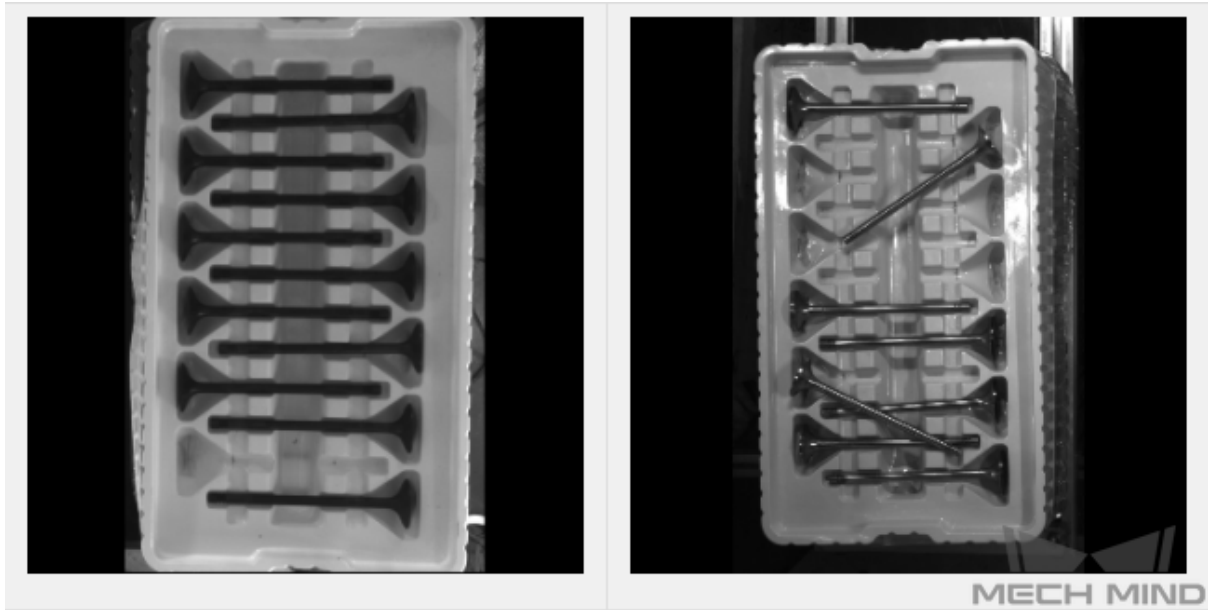

Figure 4. Engine valve in a slot and not in a slot
- If in a slot, an engine valve may be in different positions, but can only be in one of two orientations (as shown in *Figure 4*). Therefore, about 10 images need to be collected for this case.